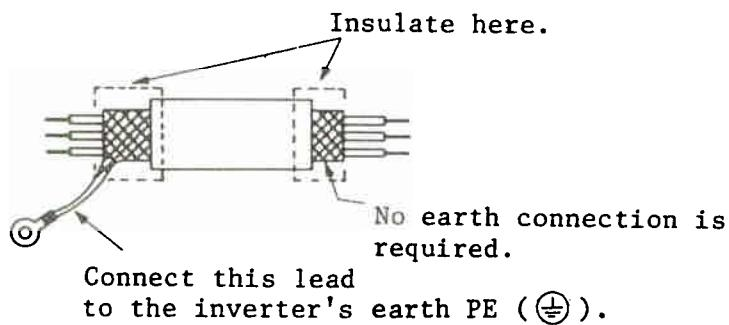

Fig. 6 Shield Processing
- (4) Use a shielded wire for a signal line, and process it as shown in Fig. 6 below. The wire length should be less than 20m.